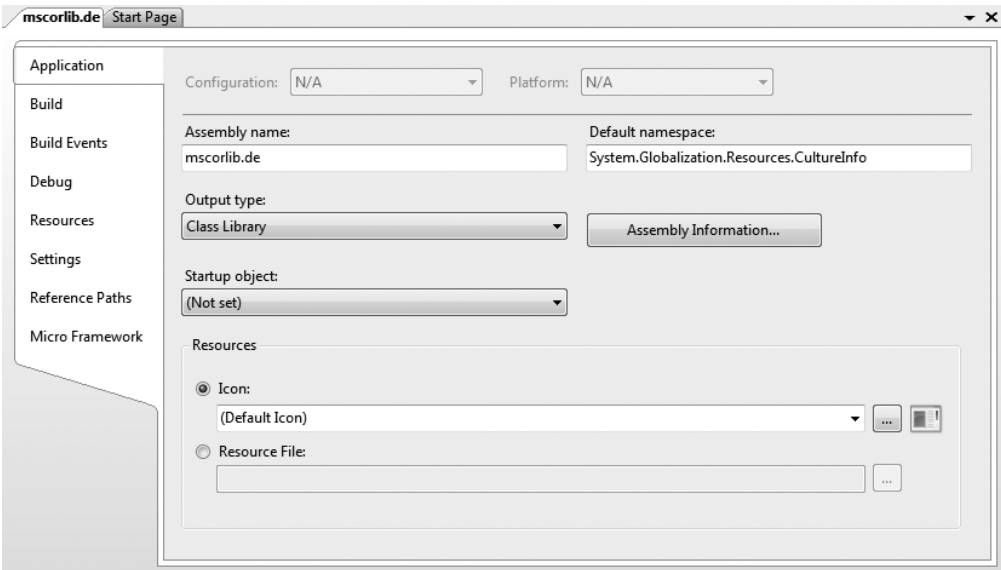

Figure 10-5. *Changing the standard namespace of a project*
2. Further, you have to change the standard namespace of a project on the Application tab page in the project properties to `System.Globalization.Resources.CultureInfo` (see Figure 10-5).